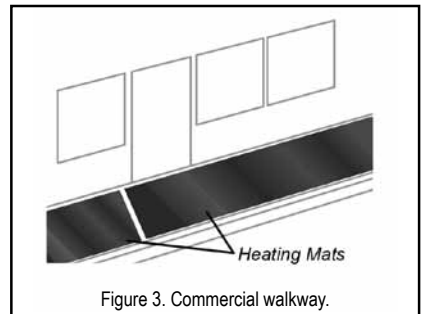

Figure 3. Commercial walkway.
- More than one length of heating mat may be required to heat the entire length of the sidewalk or walkway. In this case, you will need to wire the mats according to Figure 3.